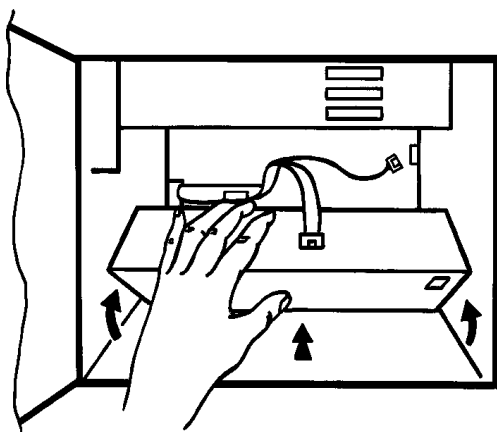

Figure 4.8.2g
5. At the rear of the recorder, remove the blanking plate, and fit the communications module (figure 4.8.2g).